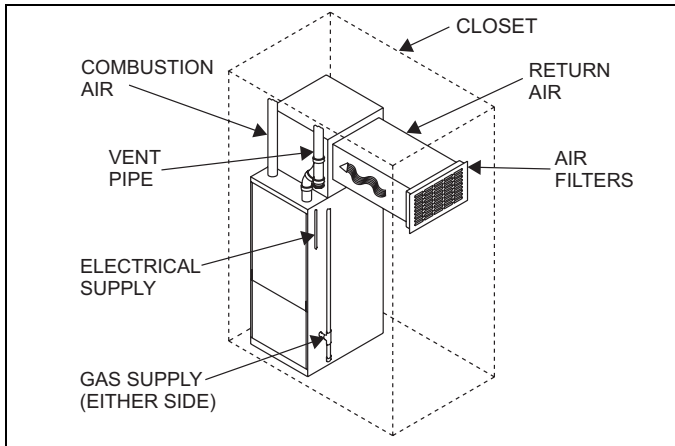

FIGURE 7: Modular Home Return Filter Grill and Return Duct Installation
- If a return air duct system and return plenum are required by state, local or regional codes then the return plenum may be connected to the furnace inlet and must terminate outside the space containing the furnace. The external air filter accessory shown in Figure 7 is designed and recommended for use inside the return plenum. Attach the return plenum to the furnace inlet duct flanges. This is typically through the use of S cleat material when a metal plenum is used. Installations where a return air duct system is utilized, the use of a listed flexible duct connector is recommended. The connection of the plenum to the furnace and all the ducts connecting to the plenum must be sealed to prevent air leakage. The sheet metal should be crosshatched to eliminate any popping of the sheet metal when the indoor fan is energized. The duct system is a very important part of the installation. If the duct system is improperly sized the furnace will not operate properly. The ducts attached to the furnace must be of sufficient size so that the furnace operates at the specified external static pressure and within the air temperature rise specified on the nameplate and in Table 3.
Downflow furnaces typically are installed with the filters located above the furnace. If a return air plenum is used, the filter rack is installed into the return air plenum or duct. Any branch duct (rectangular or round duct) attached to the plenum must attach to the vertical plenum above the filter height. Refer to Figure 7. Filters(s) may be located in the duct system external to the furnace using an external duct filter box which may be attached to the furnace plenum or at the end of the duct in a return filter grille(s). The use of straps and/or supports is required to support the weight of the external filter box.